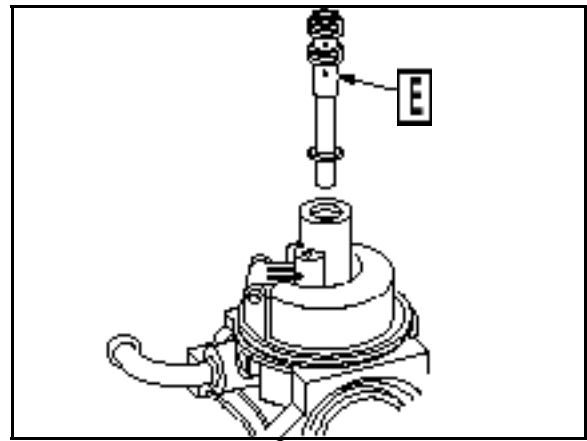

Fig. 126
14. Remove the emulsion tube ([E] Fig. 126) with Carburetor Jet Screwdriver #19280.